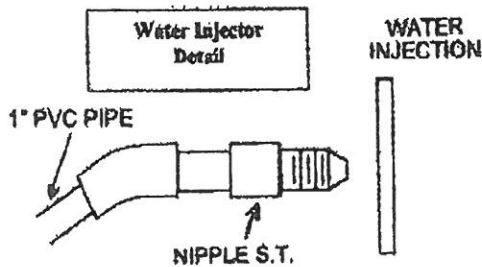

**FIGURE 3**
(18). Position outer half of water injector on the outside of flume 12" away from the panel and at the 9:00 position. Use the injector as a template. Rotate the injector half approximately 15° counterclockwise so that the inside water stream is pointing slightly downstream to wet the ride surface, then mark the flume for the three (3) holes to be drilled.
(19). Remove the injector and drill the two (2) outer holes using a drill and 7/16" drill bit. Drill the center hold using a 1-1/8" drill bit.
(20). Cut the "inside" gasket as shown in Figure 3, then attach the injector to the flume as shown in Figure 4.